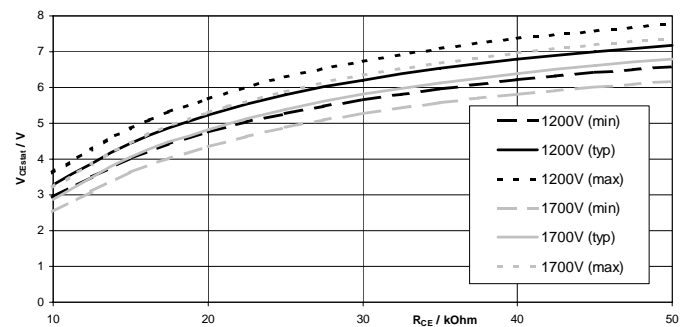

Fig. 4 V_{CEstat} in dependence of R_{CE} ($T_{amb} = 25^\circ C$)
2. Calculate approximate value of R_{CE} according to equation (1) or (1.1) from V_{CEstat} or determine R_{CE} by using fig.4.
3. Determine t_{min} and calculate C_{CE} according to equations (2) and (3).